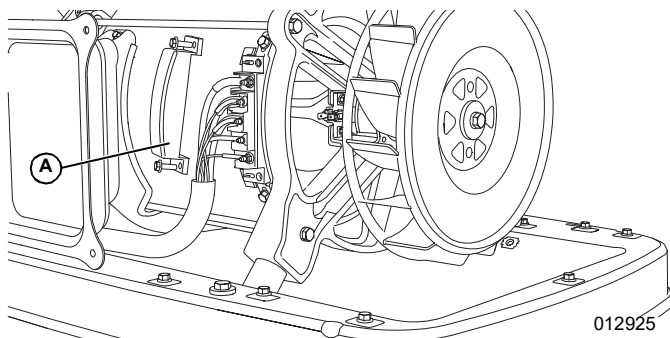

Figure 2-19. Stator Terminal Block (STB)
1. See **Figure 2-19**. Remove the stator terminal block cover (A) to expose all wires/studs (33/22, 11, 44, 2, and 6).